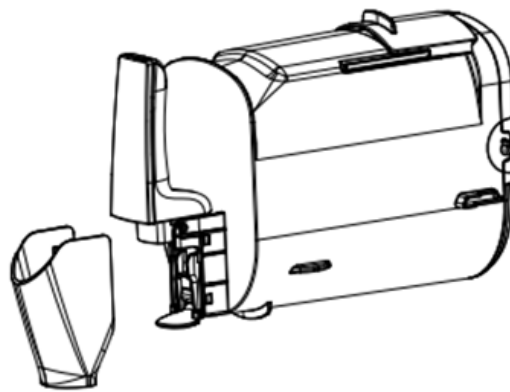
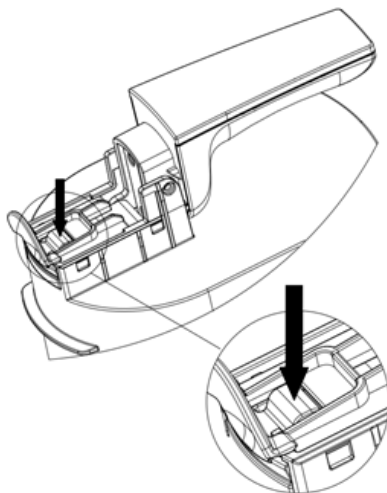
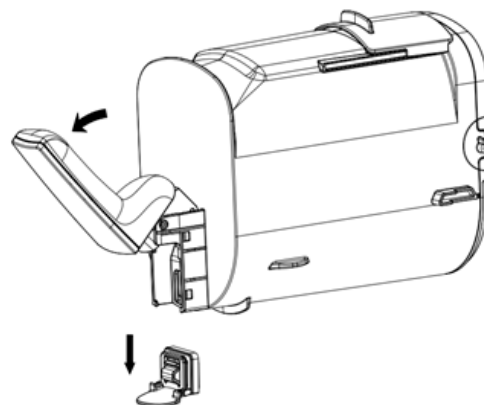

Figure 4
Figure 5
Figure 6
- Outlet port cleaning: Remove the outlet port cover (Figure 4), press and hold the outlet port bracket fastening position (Figure 5), open the barrel handle, then remove the outlet assembly (Figure 6). Clean it and put it back in the order of disassembly.